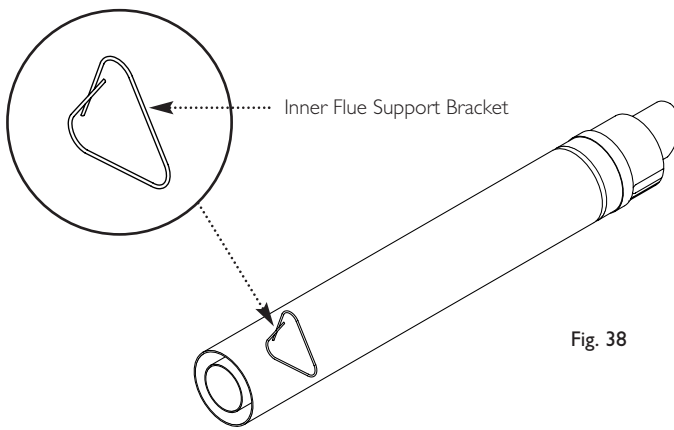

Fig. 38
7. Take the inner flue support bracket (if not already fitted) and engage it over the flue duct. This will centralise the flue and air ducts, and ease assembly (Fig. 38).